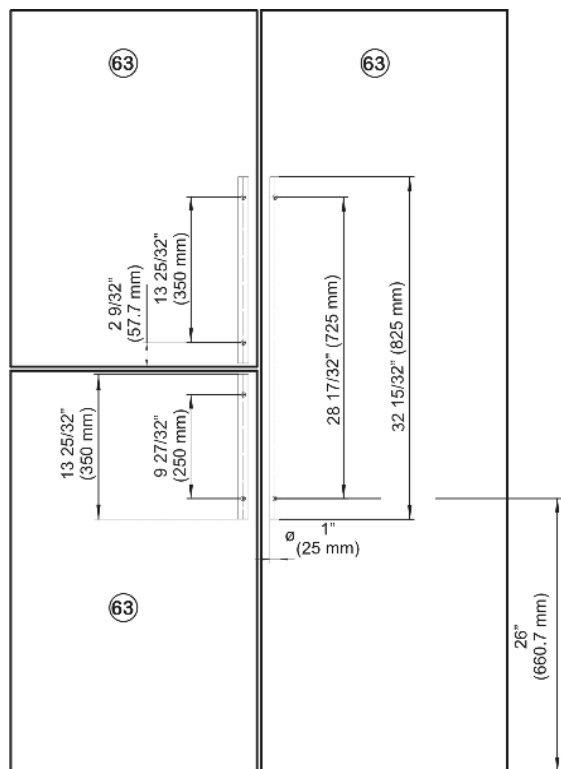

Fig. 53 Handles from the manufacturer  $\varnothing$  1" (25 mm)
- Fit handles to the overlay panel Fig. 53 (63) as shown in the diagram.